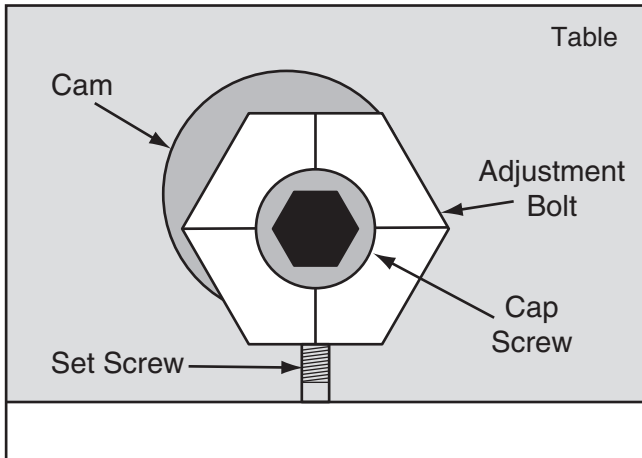

Figure 72. Illustration of the table adjustment bolt components.
- Loosen the jam nut and adjust the outfeed stop bolt underneath the table so that it just touches the bottom of the tables, as shown in **Figure 72**, then re-tighten the jam nut.